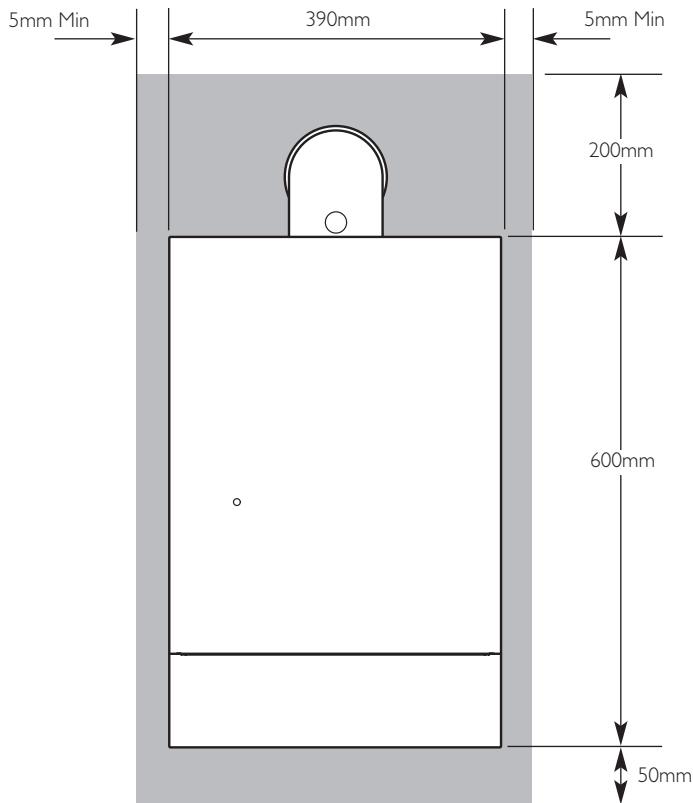

Fig. 1
6. Your boiler should have the following minimum clearances for Safety and Maintenance (Figs. 1 & 2):-